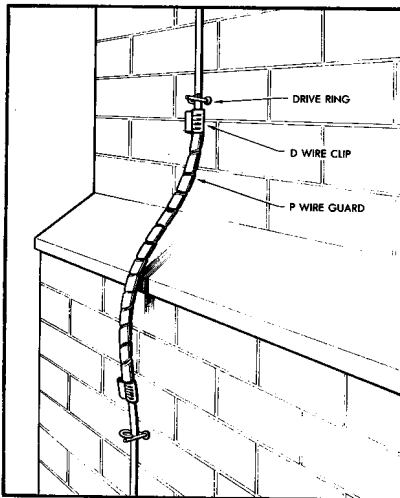

FIGURE 3. Drop Wire Crossing Masonry Building Projection
6.03 Figures 3 through 16 are typical examples of wiring that requires protection.